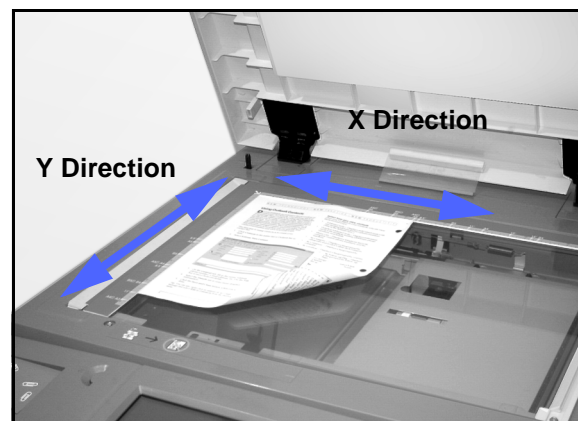

Figure 19: The X and Y Directions on the Document Glass
- The X and Y directions are always determined in reference to the registration arrow, located around the Document Glass, Figure 19. The X direction is always along the long edge of the Document Glass, and the Y direction is along the short edge of the Document Glass. The X and Y direction references on the Document Glass remain the same, regardless of the document orientation (long edge registration or short edge registration).